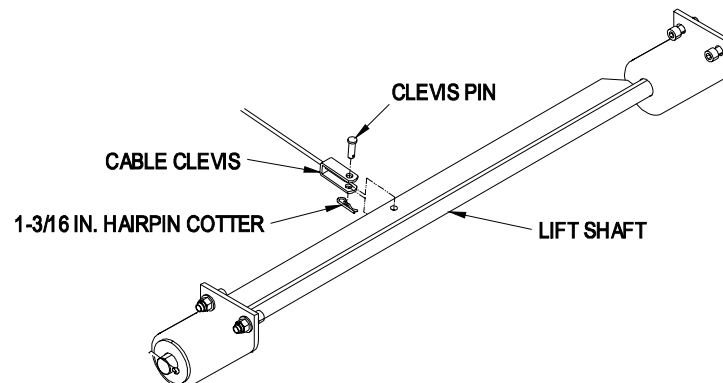

Figure 10
5. Connect the other end of the cable to the lift shaft with a clevis pin and hairpin cotter ($1-3/16$ in.) (Fig. 10).